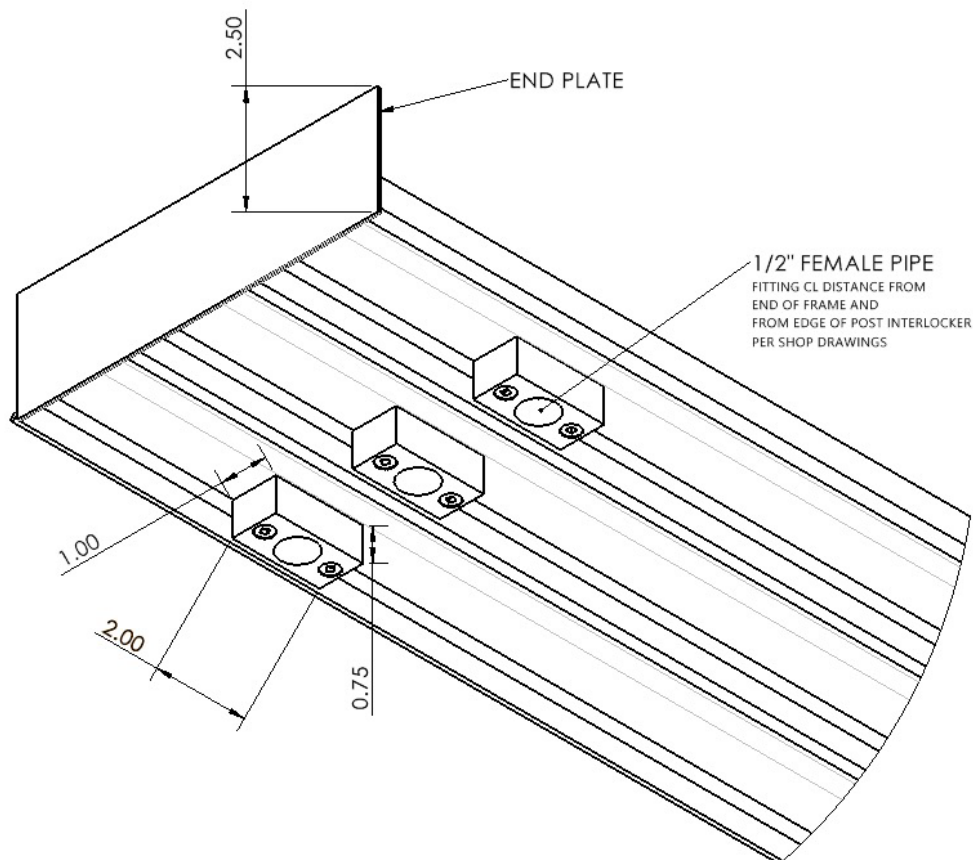

Figure 4
- Bottom Drain Fitting Sill (See Figure 4)
NOTE: Pocketing doors should not have drain fittings or weeps located in the pocket area of the sill. Be sure to leave adequate clearance for a drain line and fitting for each track. (See Figure 4).